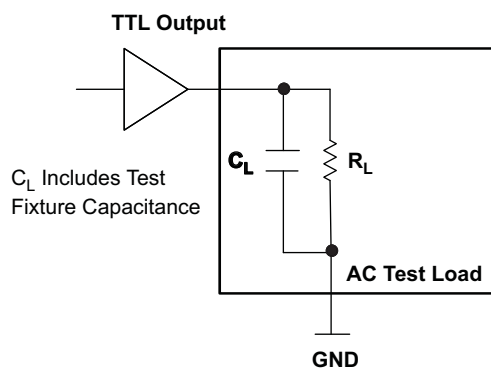

Figure 1. TTL Output AC Test Loading Condition
(1) The device will meet the specifications after thermal equilibrium has been established when mounted in a test socket or printed circuit board with maintained transverse airflow greater than 500 lfpm. Electrical parameters are assured only over the declared operating temperature range. Functional operation of the device exceeding these conditions is not implied. Device specification limit values are applied individually under normal operating conditions and not valid simultaneously.
(2)  $R_L = 500\ \Omega$  to  $GND$  and  $C_L = 20\text{ pF}$  to  $GND$ . See Figure 1.